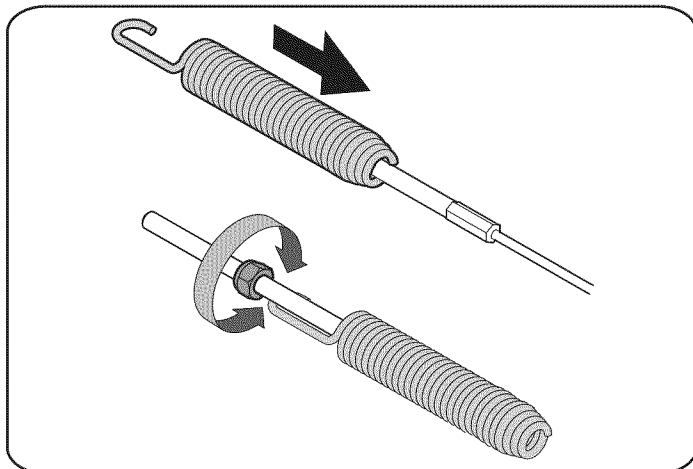

Figure 15
2. Slide the spring up the cable to expose the cable coupler threads and lock nut. Refer to Fig. 15.